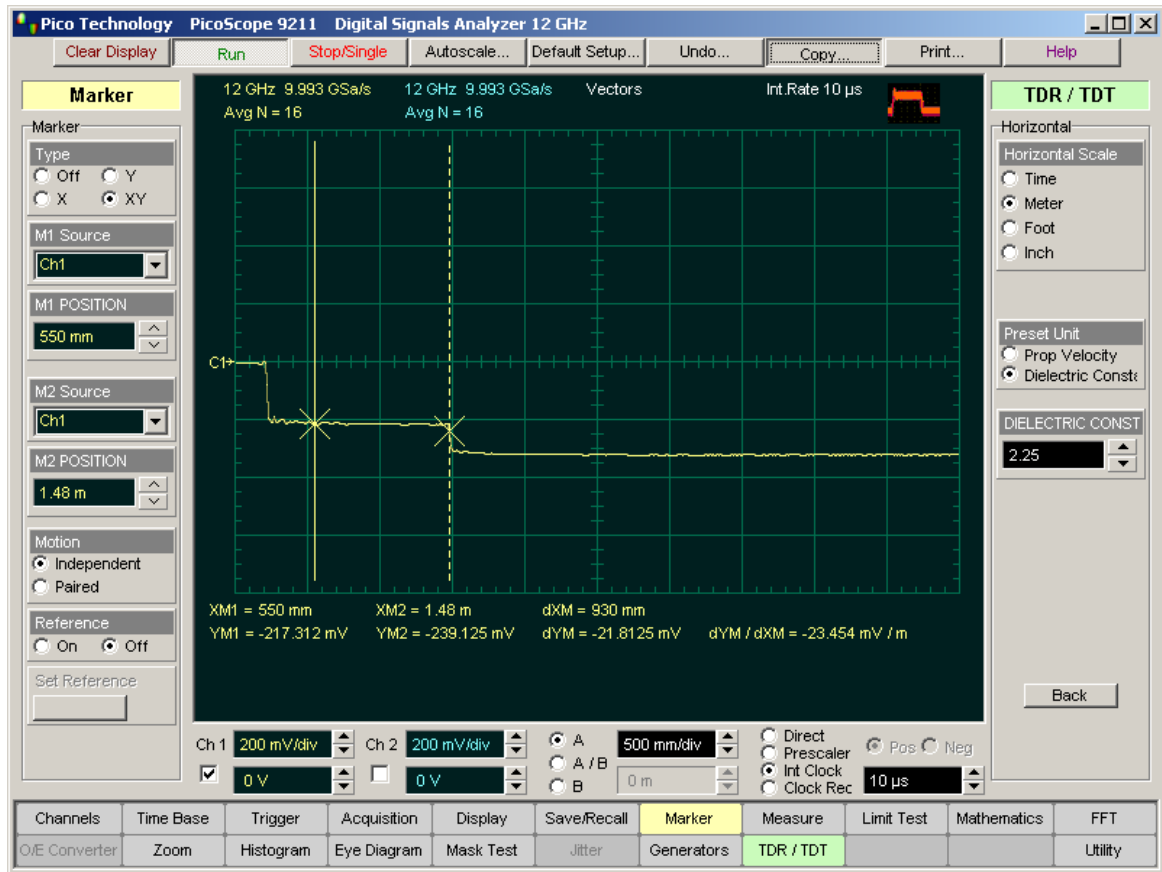

Figure 2
14. Place marker **M2** on the reflection from the open end of the cable. The **dXM** value shows the length of the cable equal to 930 mm. See Figure 2.
2. Get a picture as shown in Figure 2 in "Equipment connections for TDR measurements".